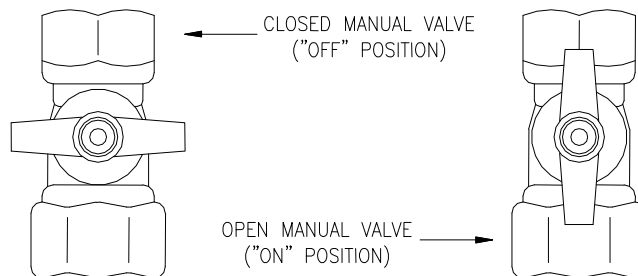

Figure 39. Manual Gas Valve.
<ol style="list-style-type: none"> 1. STOP! Read the safety information above before proceeding. 2. Set the thermostat to the lowest setting. 3. Turn off all power to the electrical appliance. 4. This water heater does not have a pilot. It is equipped with a direct ignition device, which automatically lights the burner. Do not try to light the burner by hand. 5. Turn the manual valve located at the gas inlet of the appliance clockwise to "OFF" (See Figure 39). 	<ol style="list-style-type: none"> 6. Wait (5) minutes to clear out any gas. If you then smell gas, STOP! Follow "B" in the safety information above on this label. If you don't smell gas, go to next step. 7. Turn the manual valve located at the gas inlet of appliance counterclockwise to "ON" (See Figure 39). 8. Turn on all electric power to the appliance. 9. Set the thermostat to desired setting. 10. If the appliance will not operate, Follow the instructions "To Turn Off Gas To Appliance" and call your service technician or gas supplier.
<ol style="list-style-type: none"> 1. Set the thermostat to the lowest setting. 2. Turn off all electric power to the appliance if service is to be performed. 	<ol style="list-style-type: none"> 3. Turn the manual valve at gas inlet of appliance clockwise to "OFF" (See Figure 39).
1. Turn the gas shutoff valve on the gas supply inlet to the OFF position (See Figure 39).